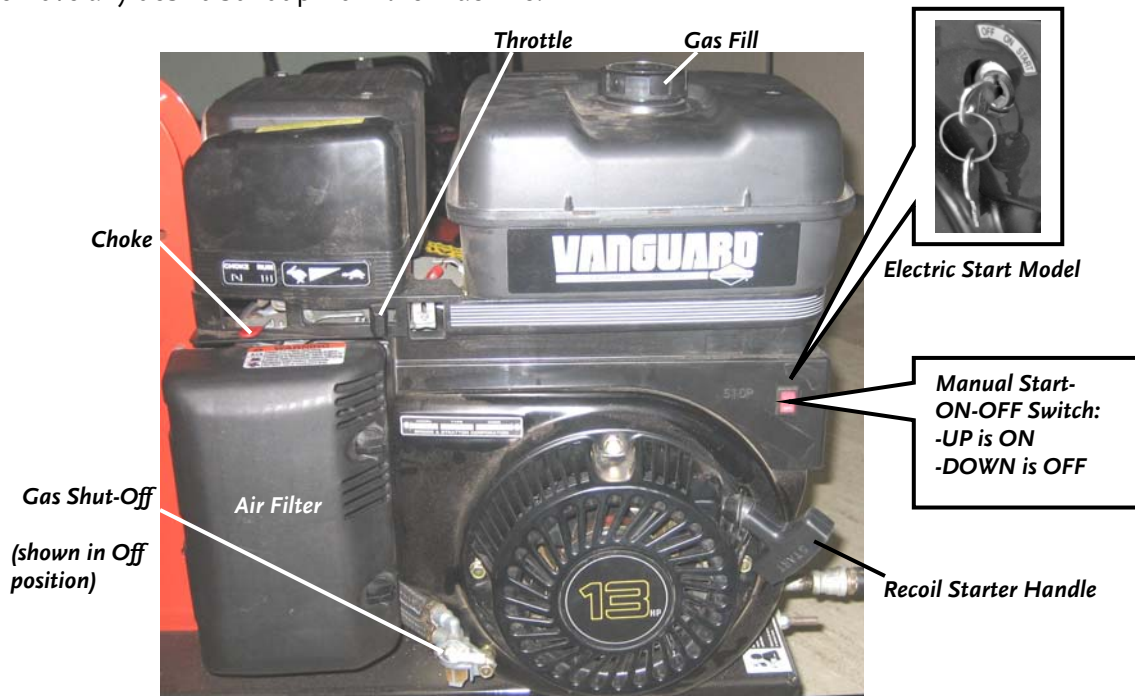

Figure 5
3. Turn the Gas Shut-Off valve to the OPEN (vertical) position (**Figure 5**).
1. Move the Choke control (**Figure 5** on page 19) to the CHOKE position (to the RUN position if the engine is already warm).
2. Move the Throttle to the FAST position (**Figure 5** on page 19).
3. Turn the Key (**Figure 5** on page 19) to the ON position and then to the START position until the engine starts, then release. The key will snap back to the ON position and the engine will continue to run.
1. Push the ON-OFF rocker switch to the ON position (**Figure 5** on page 19).
2. Move the Choke control (**Figure 5** on page 19) to the CHOKE position (to the RUN position if the engine is already warm).
3. Move the Throttle to the FAST position (**Figure 5** on page 19).
4. Grasp the recoil starter handle (**Figure 5** on page 19) and slowly pull until you feel resistance. Let the cord retract a little bit, then pull the cord rapidly to start the engine. One or two pulls usually starts the DR CHIPPER.
NOTE: Close the Fuel Shut-Off Valve when transporting or storing the DR 13 HP CHIPPER (**Figure 5** on page 19).